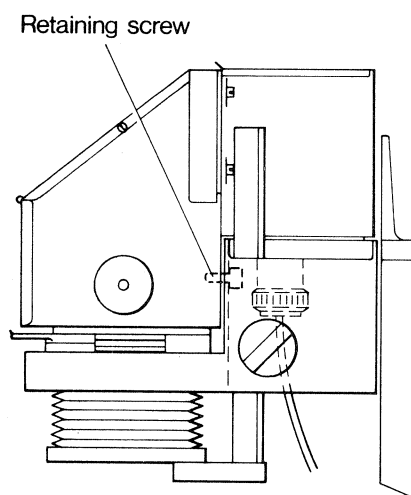
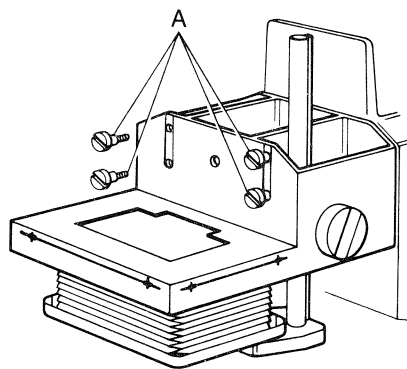

Fig 3
Fig 4
Read the following instructions in conjunction with Figs. 3 to 11
- 3.1.1 Disconnect the DURST lamphouse from the electrical supply, and remove the retaining screw securing the lamphouse to the main movable casting. The retaining screw is located in the casting recess, immediately in front of the cable entry to the lamphouse (Fig. 3).
- 3.1.2 Ensuring that the lamphouse cable does not foul, lift the lamphouse up and away from the enlarger. Lift off the negative carrier (Fig. 3) and then remove the four lamphouse locating screws "A" (Fig. 4).